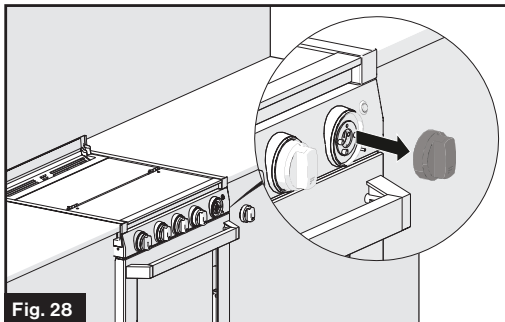

Fig. 28
- Grasp and pull on the lamp-holder with the broken LED light. (Fig. 28)